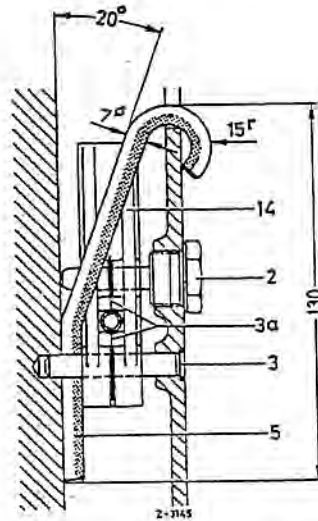

Fig. 05-18/4
17. Unscrew locking screw (2) together with upper bearing bolt for the chain guide (14), remove alignment indicator and chain guide (Fig. 05-18/4).